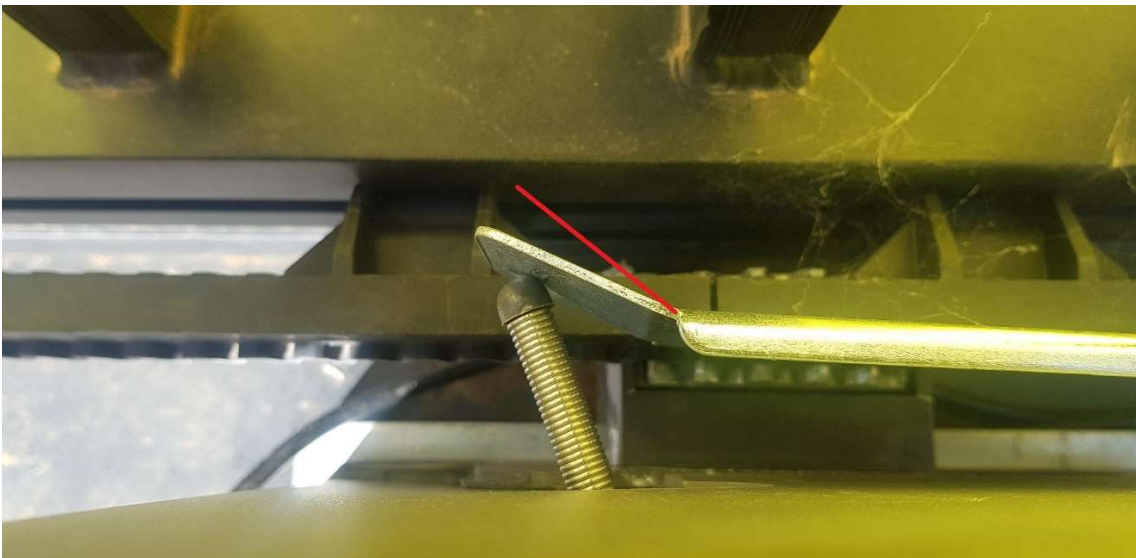

Fig 5
3. The spring and limit travel stops are not contacting correctly (Refer fig 5 & 6)
- If spring is 'sticking' you may need to adjust the bracket by bending it slightly (fig 5)